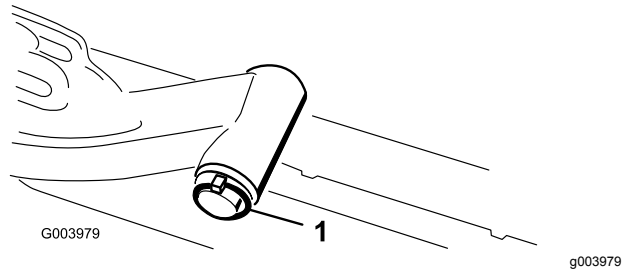

Figure 12
slide the lift-arm-pivot shaft out of the lift arm (Figure 12).
- C. Insert the lift-arm shaft into the lift arm and secure it with the washer and lynch pin (Figure 12).